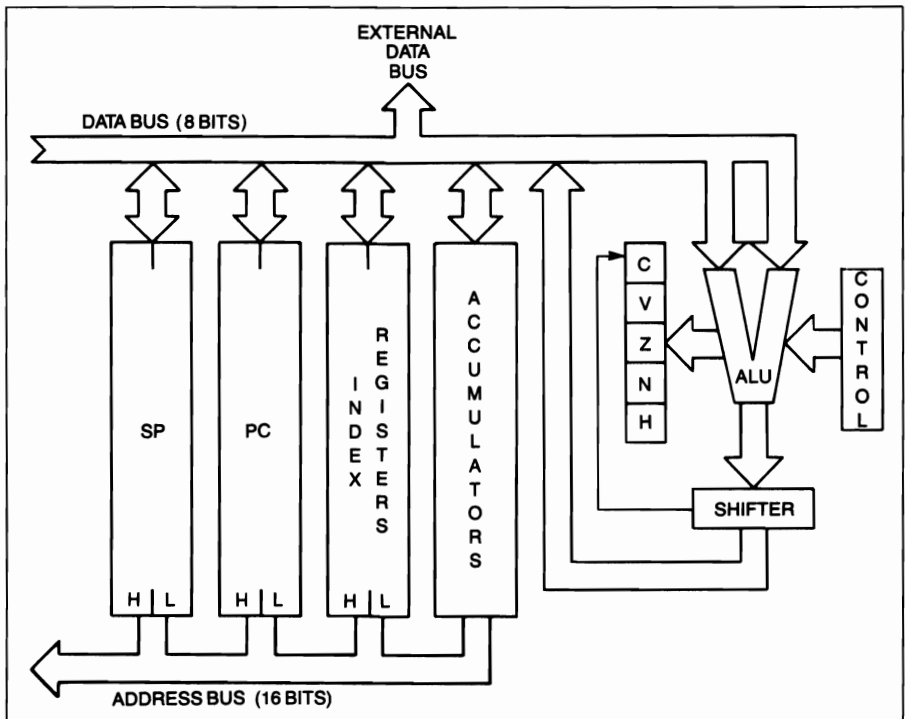
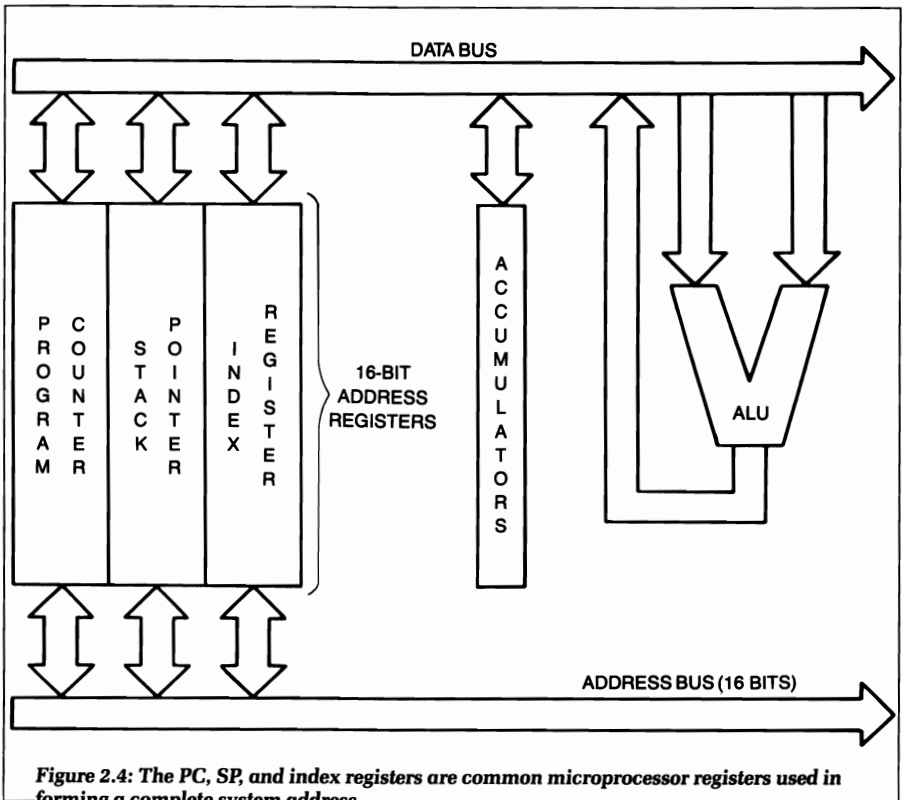
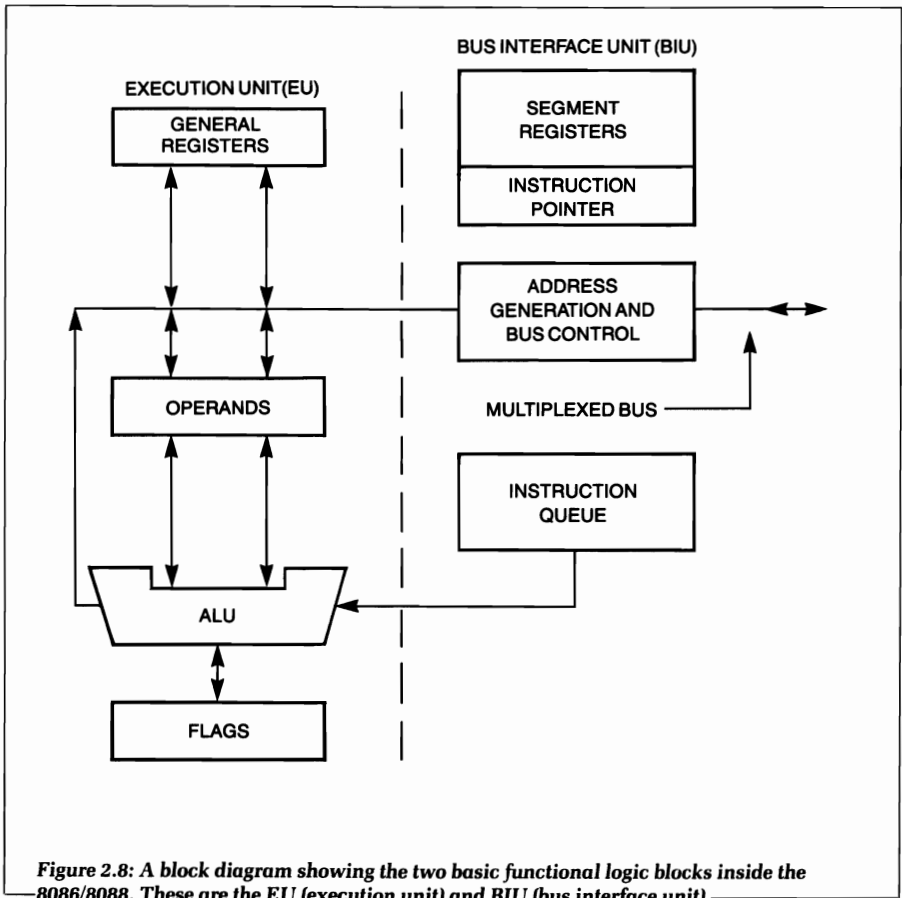

Figure 2.2: This diagram shows the general internal architecture of a "standard" microprocessor.
Figure 2.4: The PC, SP, and index registers are common microprocessor registers used in forming a complete system address.
Figure 2.8: A block diagram showing the two basic functional logic blocks inside the 8086/8088. These are the EU (execution unit) and BIU (bus interface unit).
Let us now examine Figure 2.2 and discuss the general internal architecture of a microprocessor. In addition, we will show you how the 8086 and 8088 implement their specific internal architectures, and we will point out the similarities and differences to the general case (shown in Figure 2.2).
Figure 2.2 shows a diagram of a standard architecture of a general microprocessor. Let's examine the different modules in this figure. The *control box* (on the right of the illustration) represents the control unit that synchronizes the system hardware and timing.
Referring back to Figure 2.2, the *status* or *condition code register* appears to the left of the ALU. The job of this register is to store the internal conditions of the microprocessor in codes. The condition codes are sometimes referred to as *condition flags*. An example of this is a bit that indicates when the result of an operation performed by the ALU leaves all accumulator bits equal to 0. When this occurs, the condition flag called the *zero flag* is set to true.
Moving to the left in Figure 2.2, we find the address registers. These registers are used for the storage of addresses. They are connected to the system address bus. Whenever the CPU executes a program, the address registers are combined logically to form a complete system address. Some of the power of a microprocessor comes from its ability to combine the address registers in special ways to form the system address present on the address bus. Chapter 3 describes in detail how the address registers of the 8086/8088 can be logically combined to form a single address. Figure 2.4 shows
three common address registers contained in a microprocessor: the program counter, the stack pointer, and the index register. Note that the registers also appear in Figure 2.2. Let's discuss them.
*Indexing* is a memory-addressing facility used to access blocks of data in the memory, using only a single instruction. This facility is not available in all microprocessors. It is, however, available with the 8086/8088. An *index register* typically contains a displacement, which is automatically added to a base value when forming an address. In short, indexing is used to access a word within a block of data. Now that we have discussed all the elements in Figure 2.2, let's move on and discuss the stack.
Figure 2.8 shows a functional block diagram of the 8086/8088. This diagram shows that there are two main functional logic blocks in the device: the BIU (bus interface unit) and the EU (execution unit). In the general block diagram back in Figure 2.2, both of these functions were grouped into a single control block. Let us examine what they do.
The other functional hardware section of the 8086/8088 shown in Figure 2.8 is the execution unit. This unit contains a 16-bit arithmetic logic unit. It maintains the condition flags of the CPU. The EU also manipulates the general registers of the CPU. All registers in the EU are 16 bits wide. This is true of both the 8086 and 8088.
In the description of the general block diagram of a microprocessor shown in Figure 2.2, we discussed the operation of the program counter. In the 8086/8088 the program counter is replaced by the instruction pointer (IP) register. The IP register is updated by the BIU to point to the address of the next instruction. Programs do not have direct access to the instruction pointer; but, during execution of a program, the IP can be modified or saved and restored from the stack.